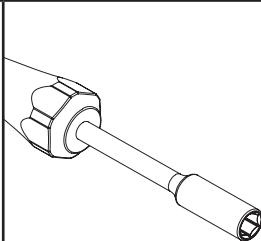
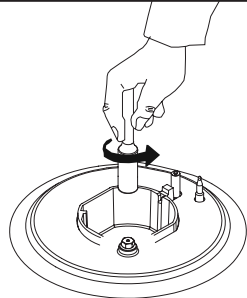

Figure 2
Figure 3
- 2.** With the help of a screwdriver (7 mm) with the tip as shown in figure 2, remove the injector by turning it (see figure 3).